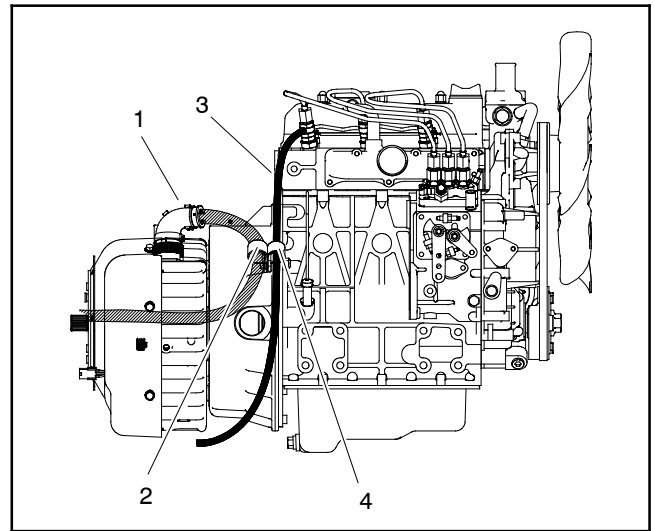

Figure 98
7. For assembly purposes, note locations of r-clamps on bellhousing (Fig. 98). Support motor/generator and bellhousing to prevent the assembly from falling or shifting.
5. Lower motor/generator and bellhousing assembly toward engine, engage motor/generator coupler hub (item 5) into flywheel coupler flange (item 17) and slide bellhousing to engine plate.
6. Secure bellhousing to engine plate with removed fasteners. Make sure that r-clamps are in locations noted during disassembly (Fig. 98). R-clamp that secures motor/generator wire harness connection should cover red tape on harness.